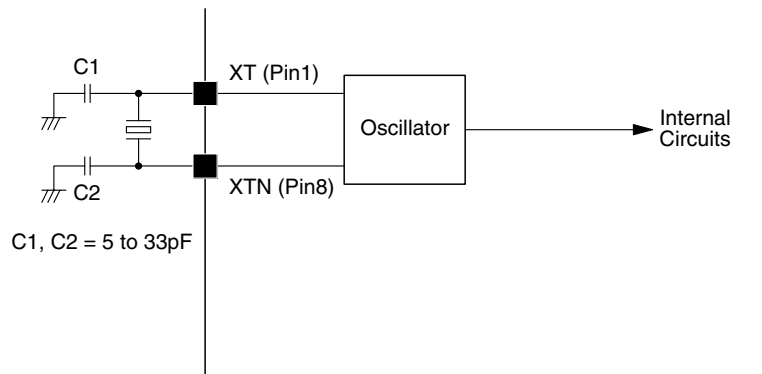
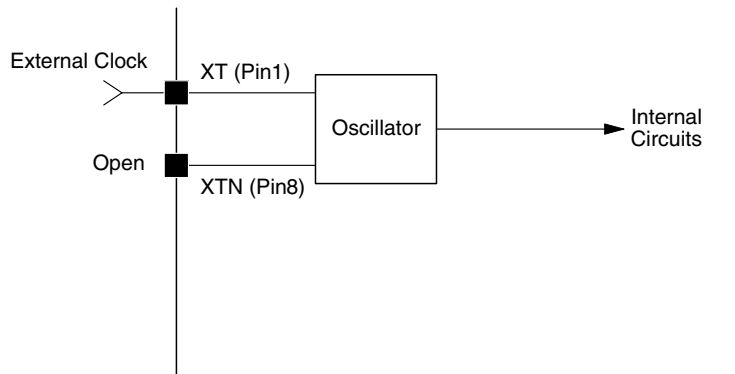

Figure 2. Crystal element connection
Figure 3. External clock input
The SM8761 series master clock can be generated by the crystal oscillator formed by connecting a crystal between XT (pin 1) and XTN (pin 8) as shown in Figure 2. Alternatively, an external master clock can be input directly on XT (pin 1) as shown in Figure 3. If an external clock is input on XT, it is recommended that the clock have 50% duty and  $V_{DD}$  level voltage amplitude. Note that the input clock amplitude voltage must not exceed the absolute maximum rating, otherwise it may cause the SM8761 series to breakdown.
- 3) If using an external clock input on XT, then connections to XT and XTN should be as shown in figure 3.